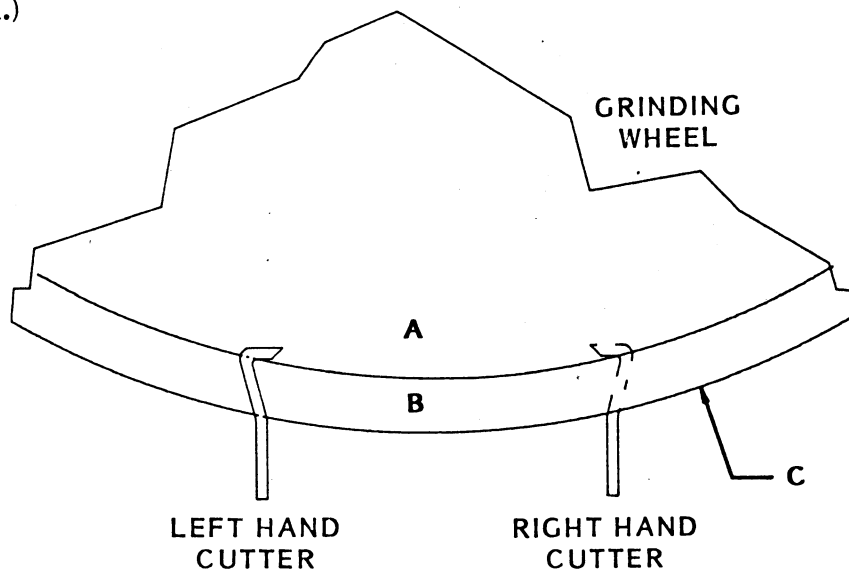
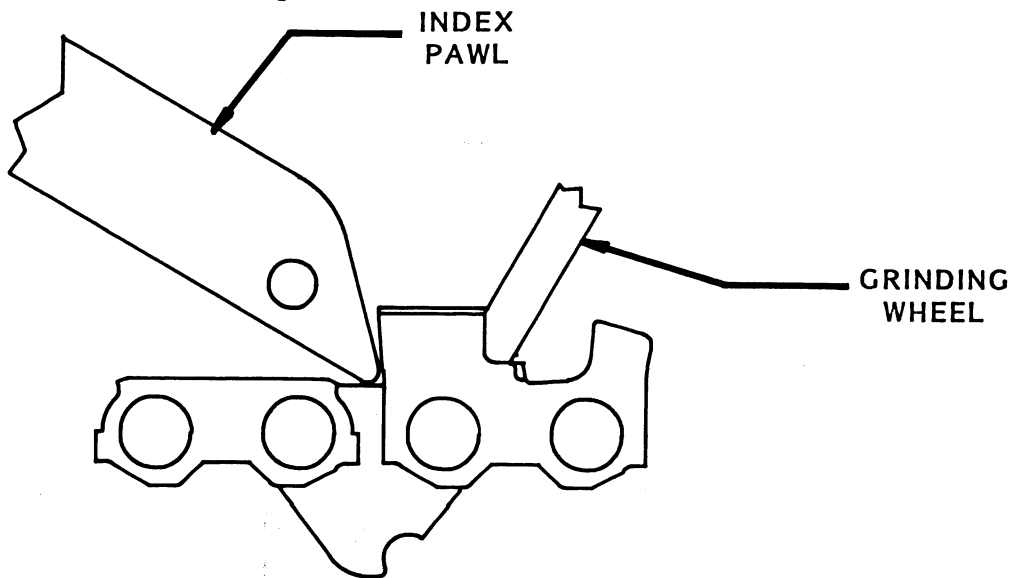

FIGURE 18
FIGURE 26
12. SETTING OFFSET. The offset allows for the proper Top Plate Cutting Angle to be ground across the full width of the Top Plate of a cutter link. To set offset, move the clamping plates so the cutter link will be located properly under the grinding wheel. (There are offset marks punched in the baseplate of the grinder to be used for reference purposes.) A properly placed cutter link under a grinding wheel is shown in Figure 18. (There will be final adjustments of the offset after the grinding wheel has been dressed.)
15. SET THE INDEXING PAWL. Using the thumb bolt adjuster (front left of the machine), set the indexing pawl to the back side of the cutter that is being sharpened (See Figure 26), to a position that will sharpen just enough cutter to regain a new, clean edge. After setting the indexing pawl, return to steps 12 and 13 and Figure 18 to make the final offset setting and also the correct depth setting to leave a clean, flat gullet.